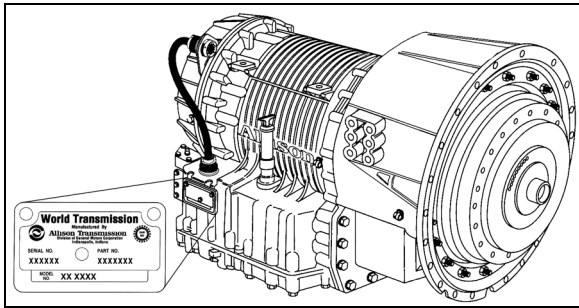

FIGURE 2: ALLISON TRANSMISSION
The transmission identification plate is located on the oil level dipstick side of the transmission (WT) (Fig. 2). The identification plate shows the transmission serial number, part number (assembly number), and model number. Use all three numbers when ordering parts.